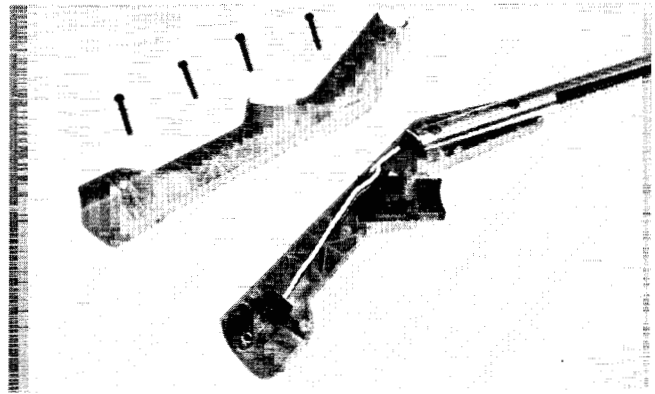

Figure 2.81
2.81 REPLACE SWITCH (fig. 2.81)